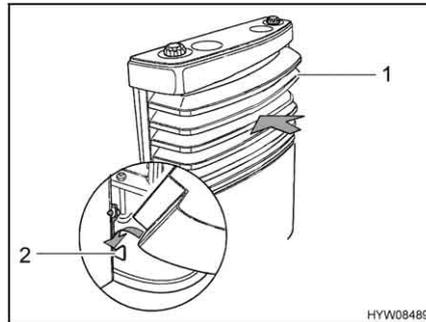

Fig. 144 Heater cover, lower brackets
- Mount the heater cover. To do this, place the heater cover (Fig. 144,1) on the lower brackets (Fig. 144,2).